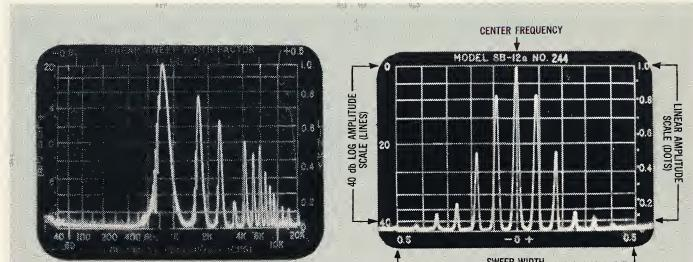

FIGURE 2
**Log Scan:** A spectrum display which has its frequency axis calibrated logarithmically. (See Figure 2)